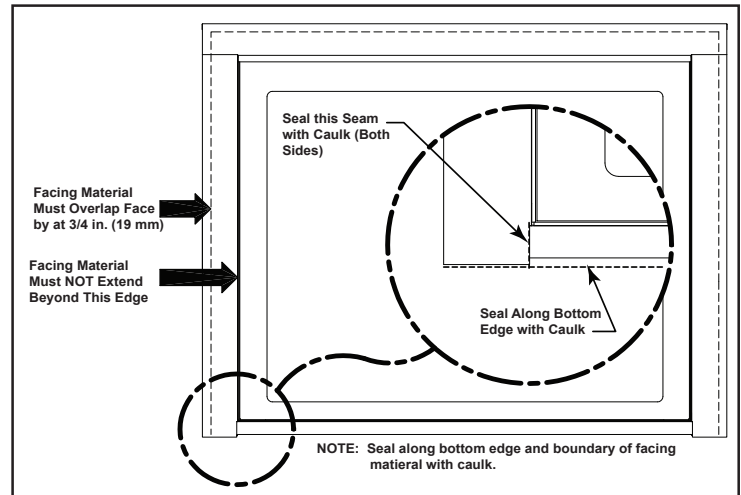

Figure 10.2
1. Install facing material to overlap the face of the fireplace by at least 3/4 in. (19 mm), apply high temp weather adhesive sealant between the face of the fireplace and the facing material to ensure the fireplace is sealed from the weather outside following the parameters in Figure 10.2.
4. Install facing material to overlap the fireplace by at least 3/4 in. (19 mm), apply high temp weather adhesive sealant around the perimeter of the facing material and the fireplace. Also seal along the bottom edge of the fireplace. See Figure 10.2.